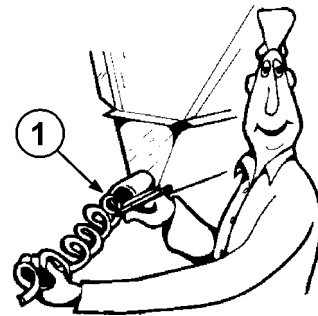

Figure 53. Measure the Auger from the *relaxed* position.
- Pull the auger at the boot end until it begins stretching. Then let it relax. In the *relaxed* position, mark the auger at the end of the boot. See Figure 53.